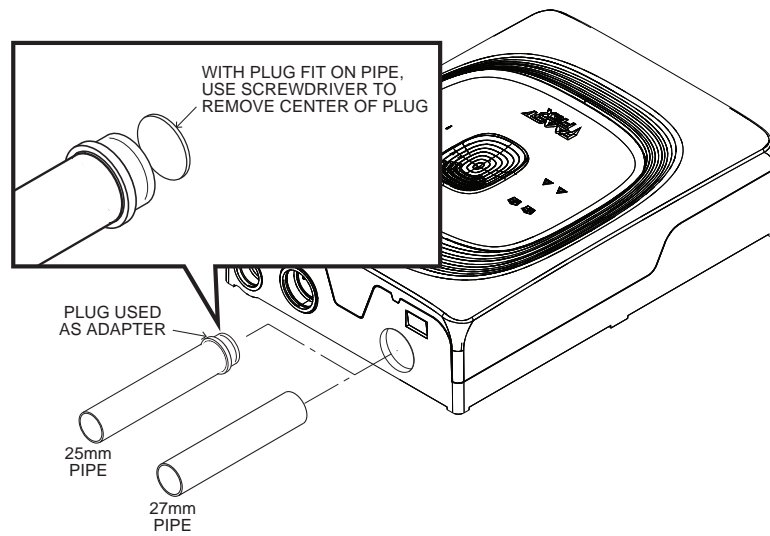
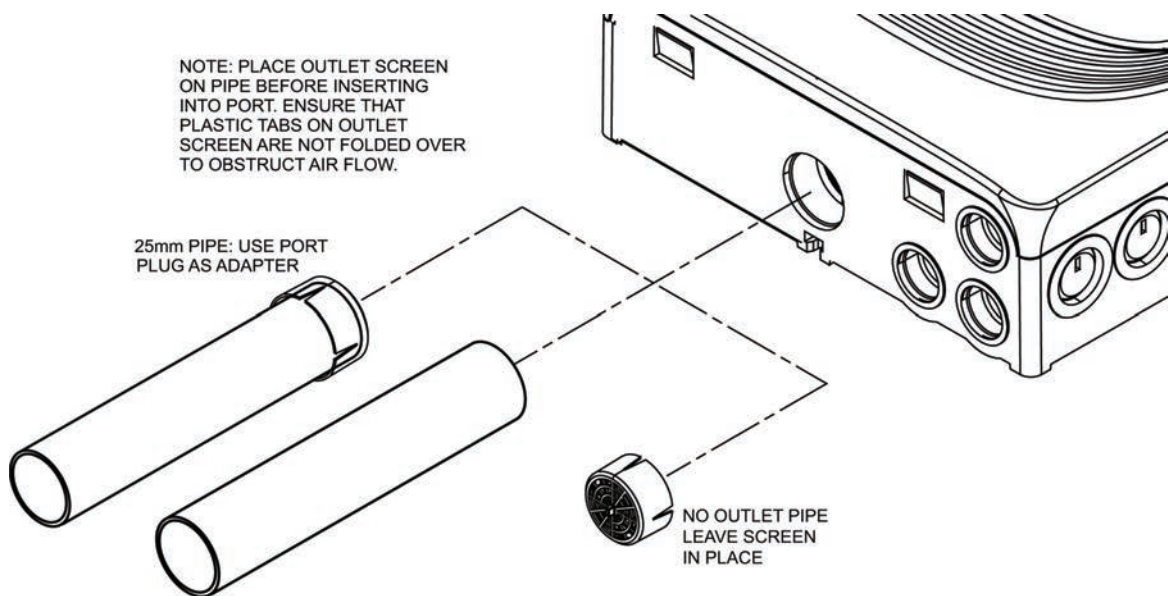

Figure 7-7: Inlet Piping Connections
Figure 7-8: Outlet Piping Connections
5. The FAAST FLEX is designed to accommodate either 27mm or 25mm pipe. If 25mm piping is used, an adapter is required. On the inlets, the pipe plugs can be used as an adapter by removing the center of the plug to open it up (see Figure 7-7). On outlet piping, the screen can be used as an adapter with 25mm piping (see Figure 7-8).